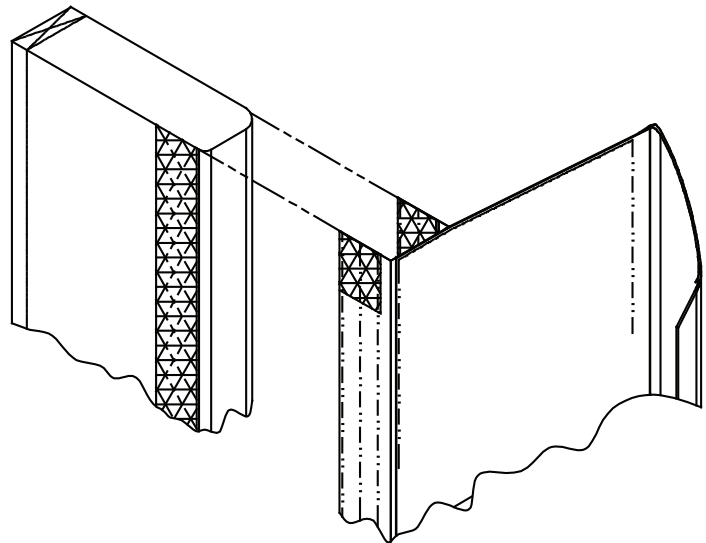

FIGURE 4
1. Align top edge of side curtain to top edge of side frame at the same time aligning the velcro flap on the outside of the side curtain to the velcro on the outside of the side frame. (See Figure 4)